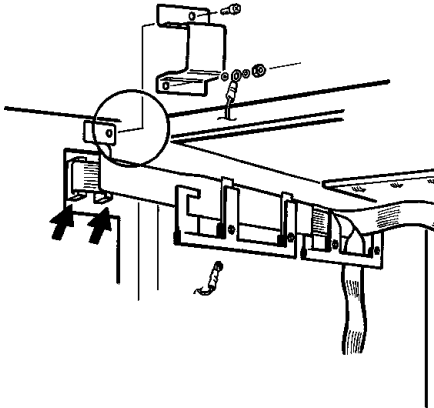

Figure 1a Earth lead and ribbon cable connectors
- b Remove the earth lead and the cover (figure 1a), retaining the fixings for later re-assembly.